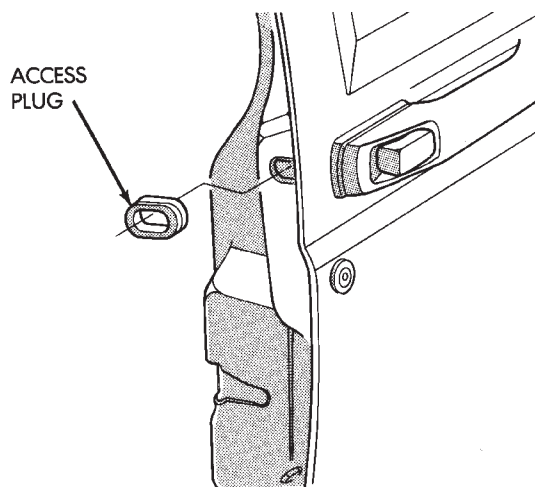
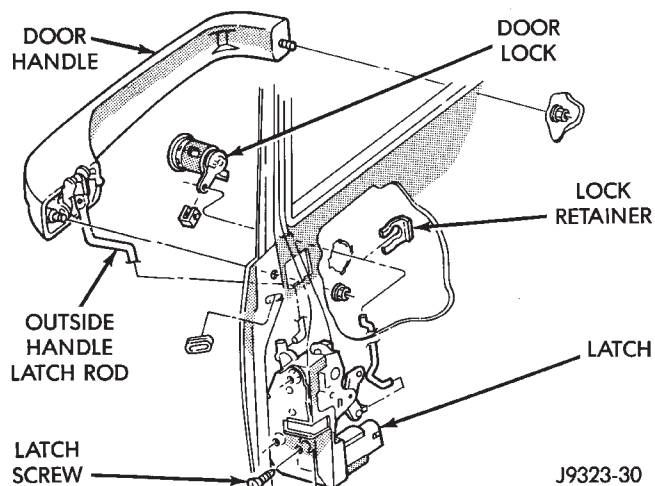

Fig. 15 Access Plug
Fig. 16 Outside Door Handle
- (1) Remove door trim panel and waterdam. If necessary, refer to installation procedure.
- (2) Remove access hole cover (Fig. 15). Remove door handle retaining nuts (Fig. 16).
- (3) Disconnect handle latch rod from latch (Fig. 16).
- (4) Remove gaskets from door, if necessary.